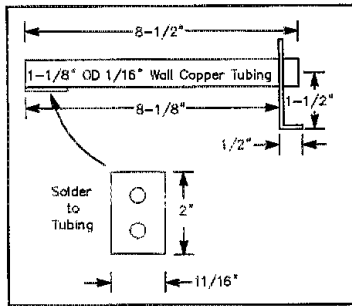

Figure 6—Plate line details.
- L1, L2—Plate lines; see text and Figure 6 for details